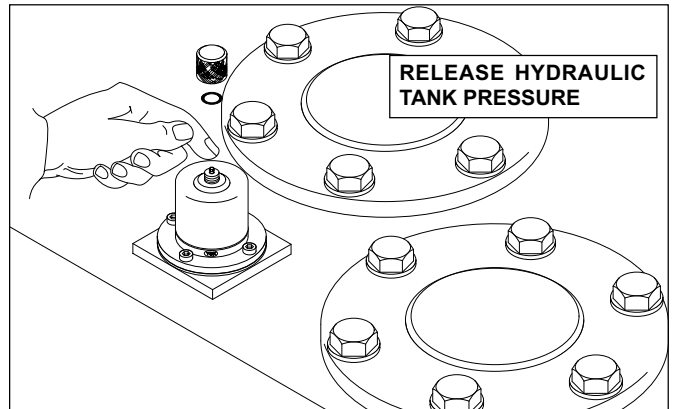

FIGURE 4.6B
5. Remove cap and depress hydraulic relief valve located on the upper surface of hydraulic tank to release the pressure in the hydraulic tank. See Figure 4.6B.